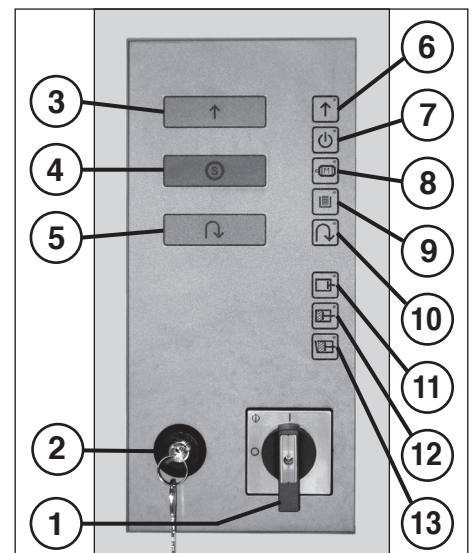

fig. 6
2. Unlock the key switch (2) (fig. 6) and operate the „cutter forwards“ pushbutton (3).
USING THE SHREDDER (Fig. 6):
OPERATING ELEMENTS (Fig. 6, 7 und 8):
- 1 = Mains switch (emergency stop) (fig. 6)**
- 2 = Key switch (fig. 6)**
- 3 = „Cutter forwards“ pushbutton (fig. 6)**
- 4 = „Stop cutter“ pushbutton (fig. 6)**
- 5 = „Cutter reverse“ pushbutton (fig. 6)**
- 6 = „Cutter forwards“ indicator light (fig. 6)**
- 7 = „Ready“ indicator light (fig. 6)**
- a) the key switch (2) is locked, or**
- b) the emergency stop bar (14) is pressed, or**
- c) the actuator of the safety switch activator (19) is not inserted in the limit switch at the baler**
- 8 = „Malfunction - motor“ indicator light (fig. 6)**
- 10 = „Cutter reverse“ indicator light (fig. 6)**
- 11 = „Ram at rear“ indicator light (fig. 6)**
- a) Comes on** if the baling ram (32) is in its basic position (rearmost position).
- b) Flashes** if the baling ram (32) is **not** in its basic position. In this case, operate the „cutter forwards“ pushbutton (3) at the shredder, or the „ram reverse“ pushbutton (17) at the baler.
- 13 = „Baler open“ or „Outlet jam“ indicator lamp (fig. 6)**